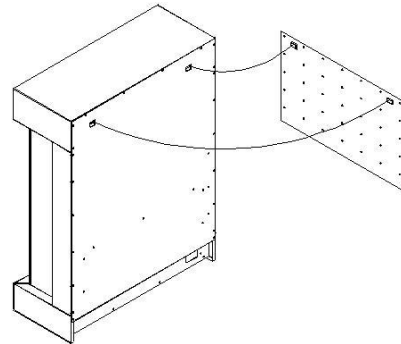

Fig. 2
4. Take out the hanger from the fireplace by unscrewing the screw (Fig.2).